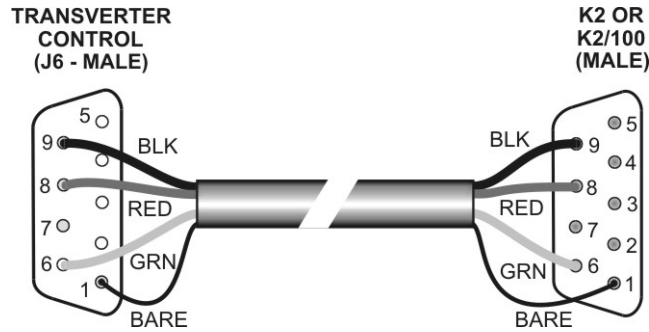

Figure 8. K2 Control Cable Wiring.
- Solder the wires to the male DB-9 connector supplied with your transverter as shown in Figure 8.
If you have not built an RS-232 or control cable to connect other equipment to your K2, you should have an unused DB-9 male connector that was supplied with the KI02 or KPA100 kit. In that case, wire the connector as shown in Figure 8. If you have wired the cable for the K2 and other accessories already, add the transverter extension(s) to it as shown in Figure 10.